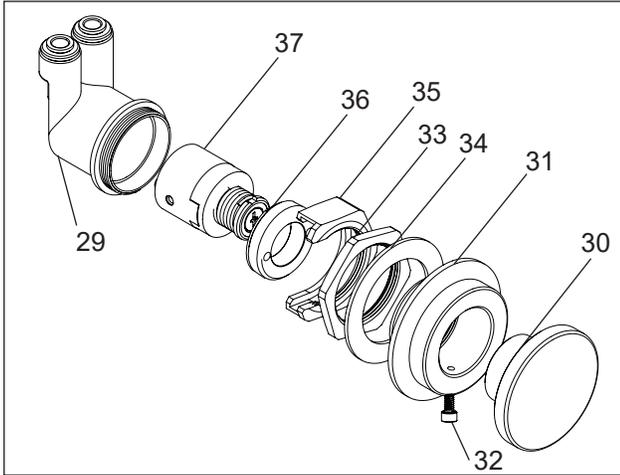

Figure 10 - Bottle Filler Push Button Assembly
1. **Make** water supply connections (Fig. 10). Install a shut-off valve and union connection to building water-supply (valve and union not provided). Turn on water supply and flush the line thoroughly.